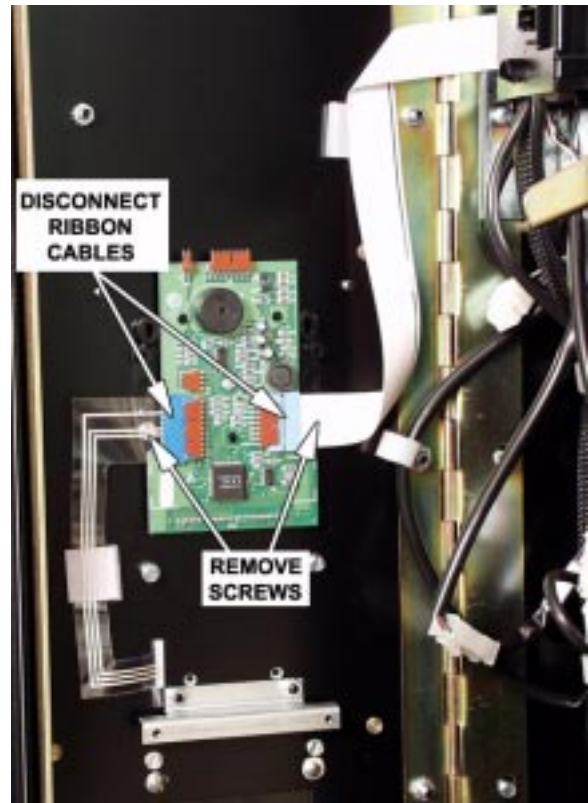

Figure 32
2. Disconnect the ribbon cables coming from the direction keypad and the controller PCB (figure 32).